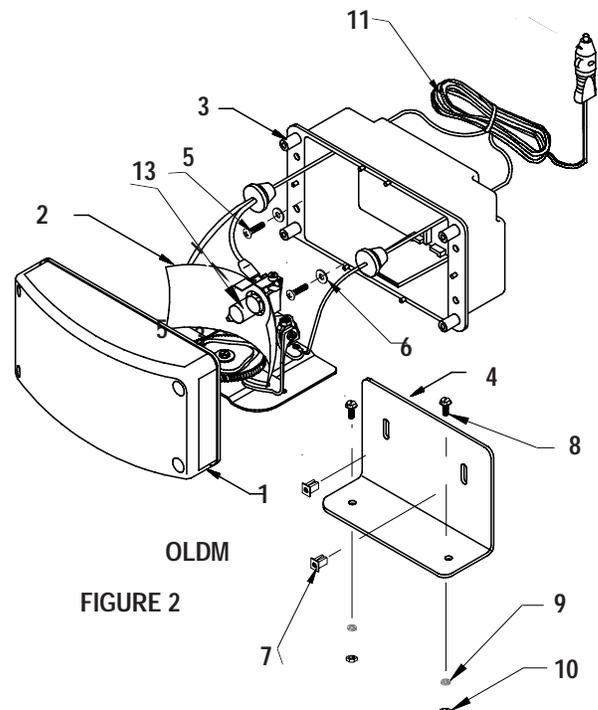

FIGURE 2
- 2) Using the supplied lockwashers, nuts, and carriage bolts, mount the bracket to the drilled holes. (See Figure 2.) Insure that the fasteners are sufficiently tight.
- 1) Assemble the Dash Mount bracket according to Figure 2 or 3 per applicable mounting.